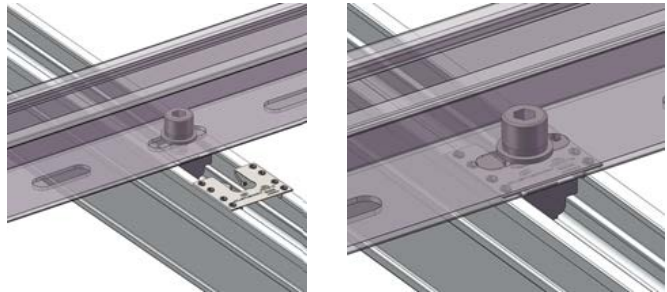

Figure 17
5.4.4 Insert the Ground Clip (EZ-GC-ST) between Cable Tray and ECO Rail for each fixing point, as shown in Figure 17.